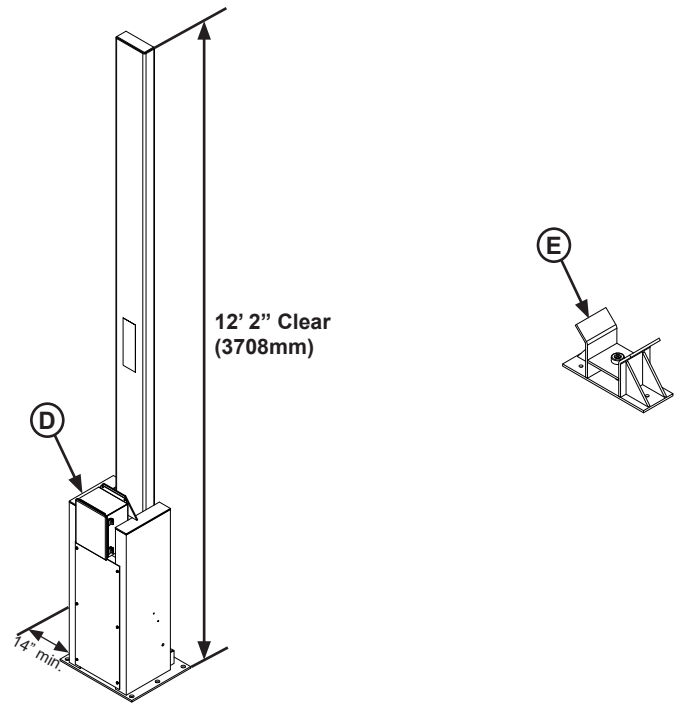

Figure 6
3. Check overhead clearance with barrier in raised position to ensure that the barrier arm will not interfere with the overhead door or any other overhead objects. See Figure 6.
Note: Standard 10' (3048mm) span barrier requires 12' 2" (3708mm) overhead clearance as shown in Figure 6. Contact Systems, LLC Technical Services for information on non-standard barriers.